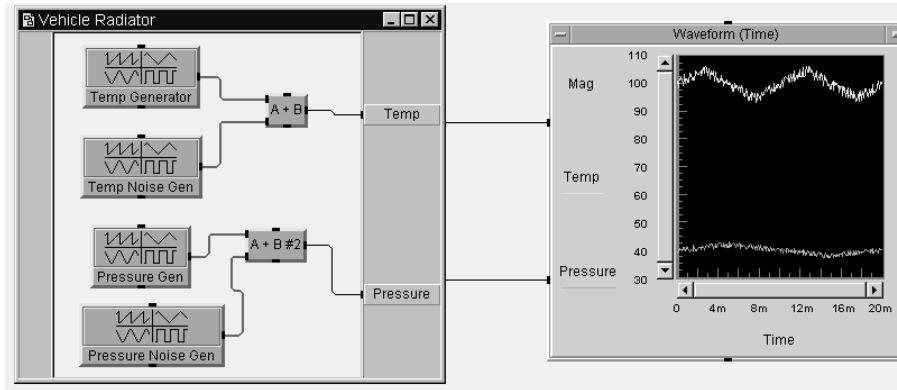

Figure 6.11. The original LAB3-4 after running
2. Select Menu Bar => File => Open; open LAB3-4. It should look like Figure 6.11.